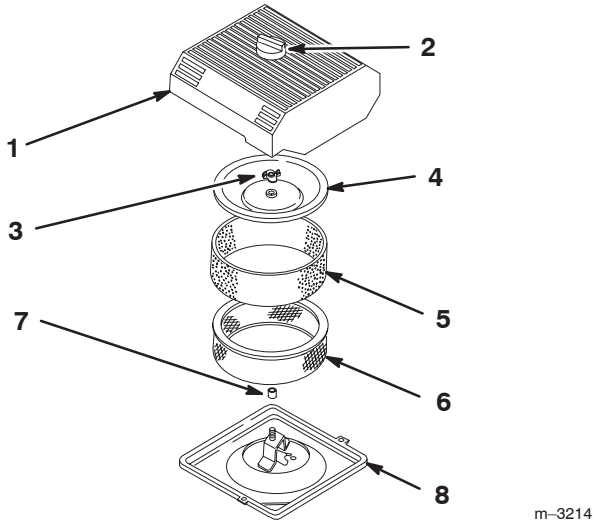

Figure 31
3. Clean around the air cleaner to prevent dirt from getting into the engine and causing damage (Fig. 31).
4. Loosen the knob on the air cleaner cover and remove the cover (Fig. 31).
5. Carefully slide the foam element off the paper element (Fig. 31).
6. Unscrew the cover nut and remove the cover and paper element (Fig. 31).
1. Carefully slide the foam element onto the paper air cleaner element (Fig. 31).
3. Install the cover nut finger-tight against the cover (Fig. 31).
- Install the air cleaner cover and knob (Fig. 31).